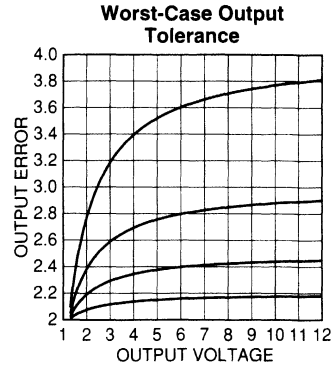

Figure 3.
**Figure 3.** Producing 3.3V at 5A with minimal heat sink requirements. A 0.15Ω resistor dissipates excess power, reducing regulator heat generation. The resistor needs no heat sink.
The output voltage error of the entire regulator system is the sum of reference tolerance and the resistor error contribution. Figure 3 shows this worst-case tolerance for the MIC29512 as the output voltage varies from minimum to 12V using  $\pm 1\%$ ,  $\pm 0.5\%$ ,  $\pm 0.25\%$ , and  $\pm 0.1\%$  resistors. The more expensive, tighter accuracy resistors provide improved tolerance, but it is still limited by the adjustable regulator's  $\pm 2\%$  internal reference.